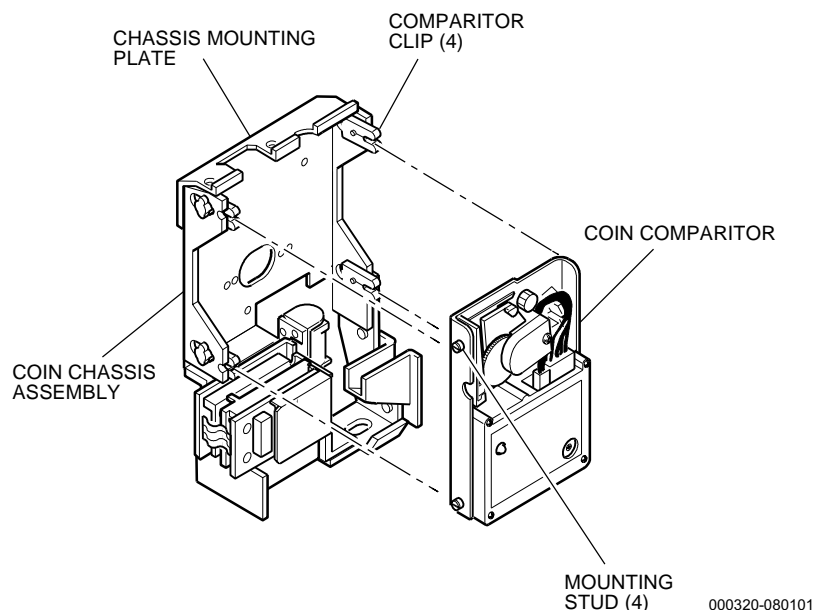

Figure 6-5. Coin-In Assembly - Coin Comparitor Removal
1. Remove the coin comparator from the coin-in assembly (see Figure 6-5).
To remove the coin-in assembly from the machine, see Figure 6-5 and proceed as follows.